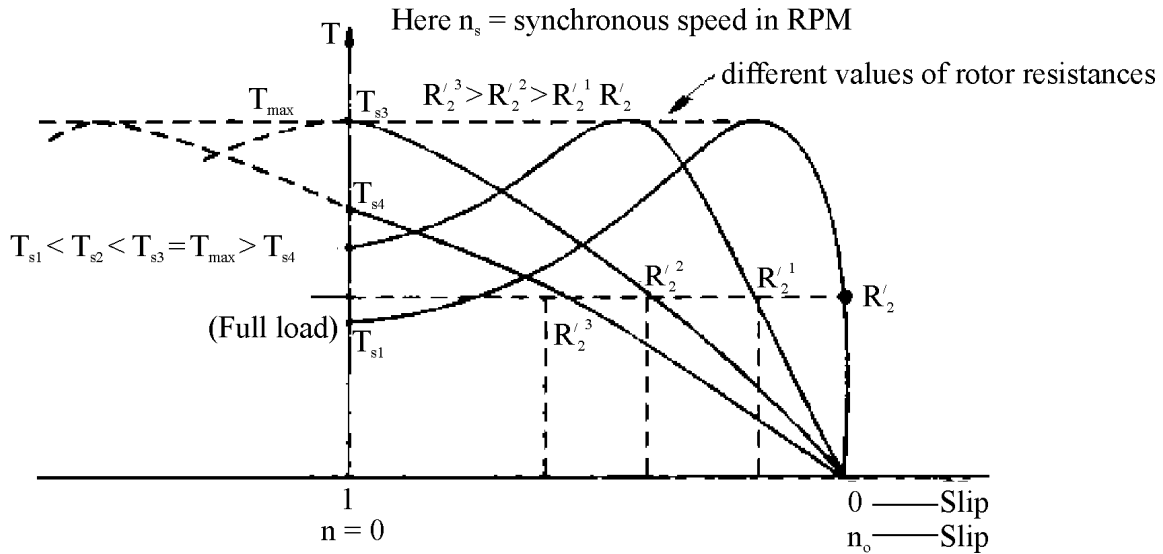

Fig. D2 Torque-slip characteristics of induction motor with increasing values of rotor resistance
The torque speed characteristics [or, $T - \omega_s$ characteristics] can be obtained from Equation (A); for different values of rotor resistance are shown in Fig.D2